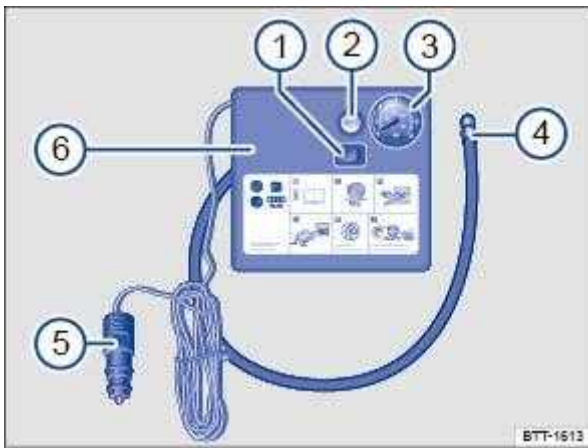

Fig. 209 Illustration: compressor from the breakdown set.
The compressor in the breakdown set consists of the following components ⇒ Fig. 209 :
Screw the tyre filler hose ⇒ Fig. 209④ of the air compressor tightly onto the tyre valve.
Check that the bleed screw ⇒ Fig. 209② is closed.
Insert the 12-volt plug ⇒ Fig. 209⑤ into one of the vehicle's 12-volt sockets ⇒ Electrical sockets .
- ☒ Use the on/off switch ⇒ Fig. 209① to switch on the air compressor.
Reconnect the tyre filler hose ⇒ Fig. 209④ and read off the tyre pressure on the tyre pressure display ③.